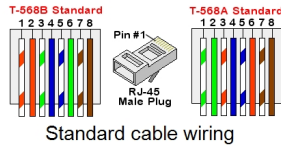

Figure 22: Standard cable wiring
- c. Insert the eight wires into an RJ45 connector, as described in *Figure 22*
7. For the switch/router side, use a pre-terminated cable or use a crimper to prepare an RJ45 communication connector: Insert the eight wires into the RJ45 connector in the same order as above (*Figure 22*).